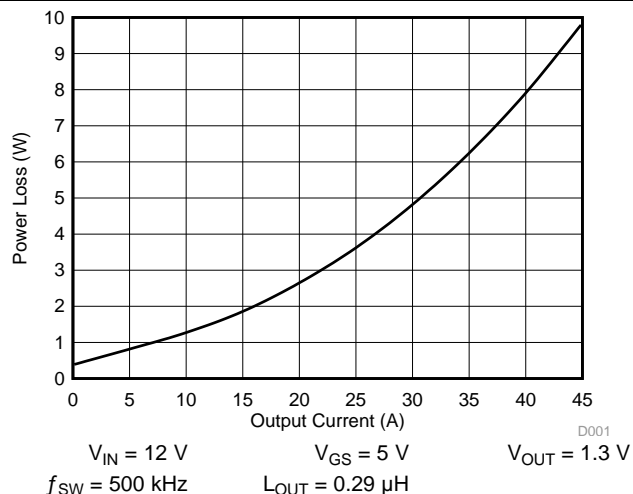
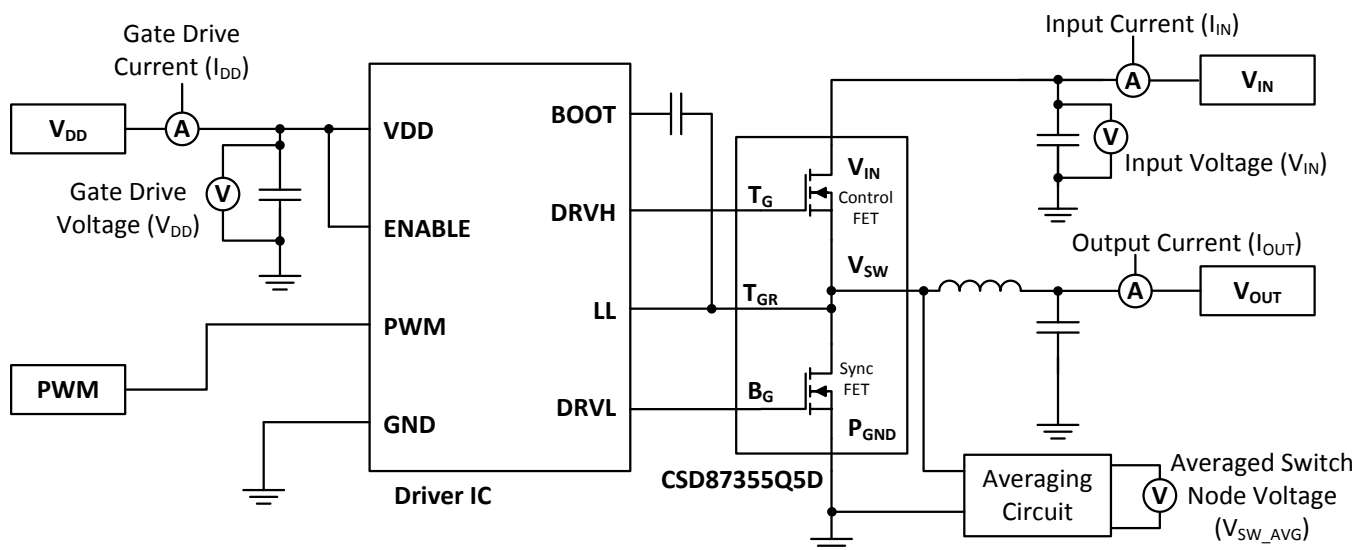

Figure 1. Power Loss vs Output Current
Figure 31.
MOSFET centric parameters such as  $R_{DS(ON)}$  and  $Q_{gd}$  are needed to estimate the loss generated by the devices. In an effort to simplify the design process for engineers, Texas Instruments has provided measured power loss performance curves. **Figure 1** plots the power loss of the CSD87355Q5D as a function of load current. This curve is measured by configuring and running the CSD87355Q5D as it would be in the final application (see **Figure 31**). The measured power loss is the CSD87355Q5D loss and consists of both input conversion loss and gate drive loss. **Equation 1** is used to generate the power loss curve.
The power loss curve in **Figure 1** is measured at the maximum recommended junction temperatures of 125°C under isothermal test conditions.
- Power Loss at 25 A = 3.62 W (Figure 1)